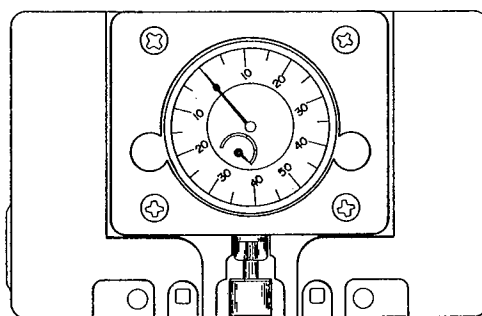

Fig. 24 AKAI Head Projection Gauge
Set the AKAI Head Projection Gauge (Fig. 24) and adjust (a) and (b) screws (Fig. 22) so that it reads: 1.9 to 2.2 mm in the IPLS Mode, 3.55 ± 0.1 mm in the Play Mode.
4. When a mirror installed cassette test tape as shown in Fig. 24 is required, it can be ordered from AKAI Electric Co.